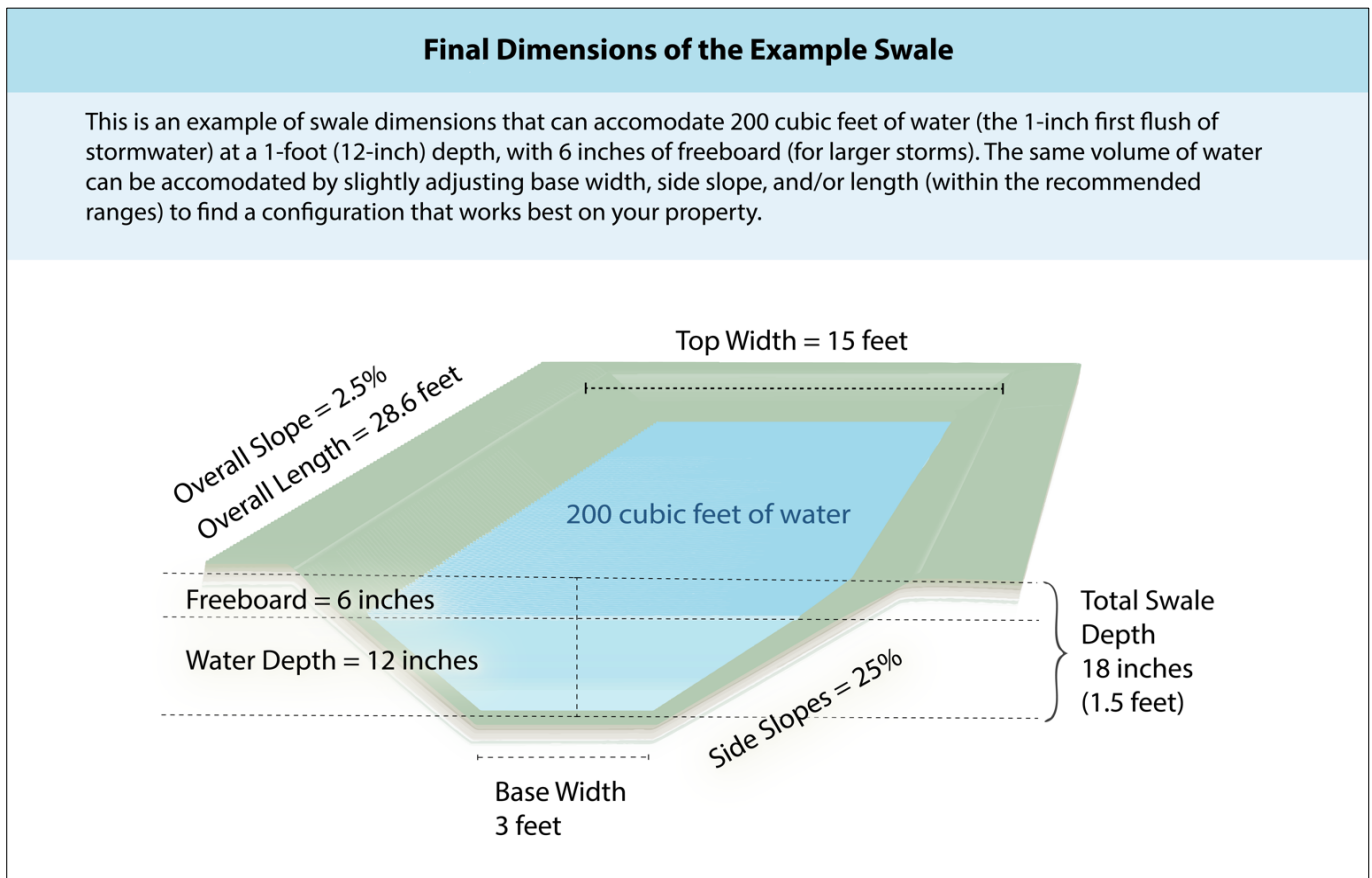

Figure 5. The final swale dimensions based on the example calculations in this section (not drawn to scale).
- **Final Dimensions** - Once the swale dimensions are calculated and confirmed, sketch out the final swale design (see Figure 5 for an example). These specifications will be used to mark out the proposed location and extent of the swale for digging/excavation. This final design can be adjusted to find a configuration that works best on your property by altering the base width, side slope, and/or length measurements—while ensuring that the same volume of water can be accommodated and that all dimensions remain within recommended ranges. Remember to follow the guidelines starting on page 3 of this fact sheet for locating and designing, building, planting, and managing your vegetated swale to maximize success.